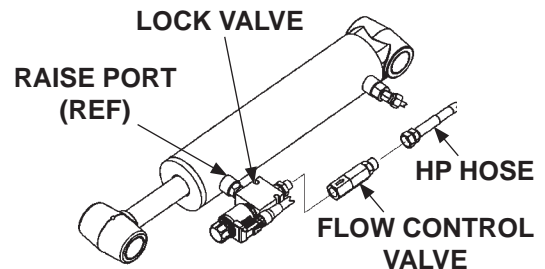

FIG. 37-3
2. Check the hydraulic cylinder. With the platform on the ground, remove the breather plug or vent line from the vent/down port of the cylinder (**FIG. 37-3**). Raise the platform even with the bed. Allow pump motor to run two seconds more while you watch for hydraulic fluid at the vent/down port. A few drops of hydraulic fluid escaping the vent/down port is normal; however, if it streams from the vent/down port, piston seals are worn. Replace seals.
3. Check and clean flow control valve in high pressure hydraulic line attached to cylinder. When installing flow control valve, make sure arrow on valve is oriented as shown in **FIG. 37-3**.